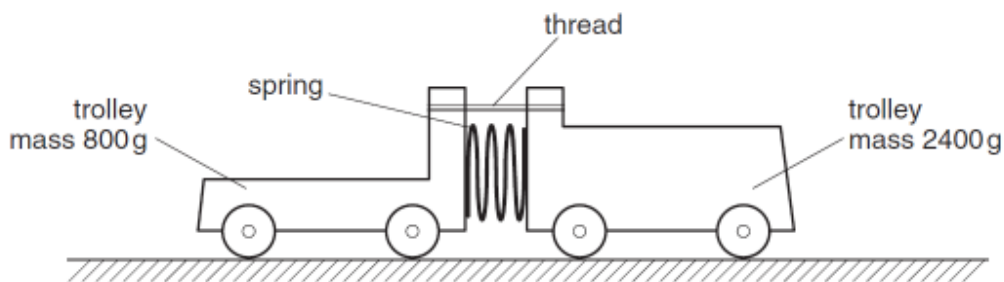

Fig. 2.3
- (b) Two trolleys, of masses 800 g and 2400 g, are free to move on a horizontal table. The spring in (a) is placed between the trolleys and the trolleys are tied together using thread so that the compression of the spring is 3.5 cm, as shown in Fig. 2.3.